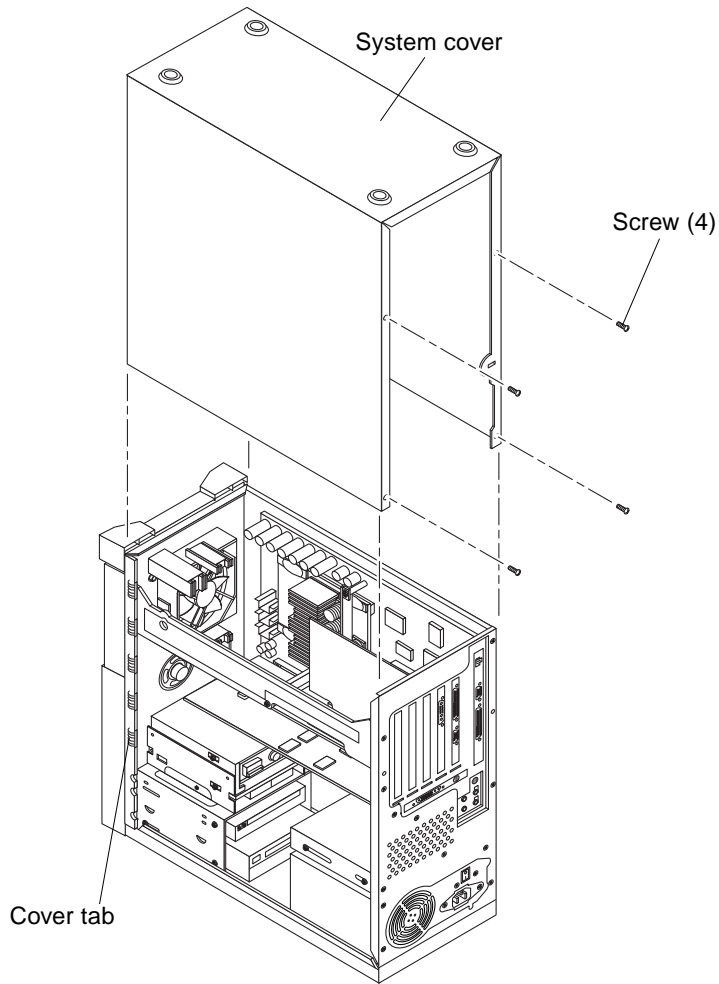

FIGURE 10-1 Removing and Replacing the System Cover
2. **Replace the system cover as follows: (FIGURE 10-1):**